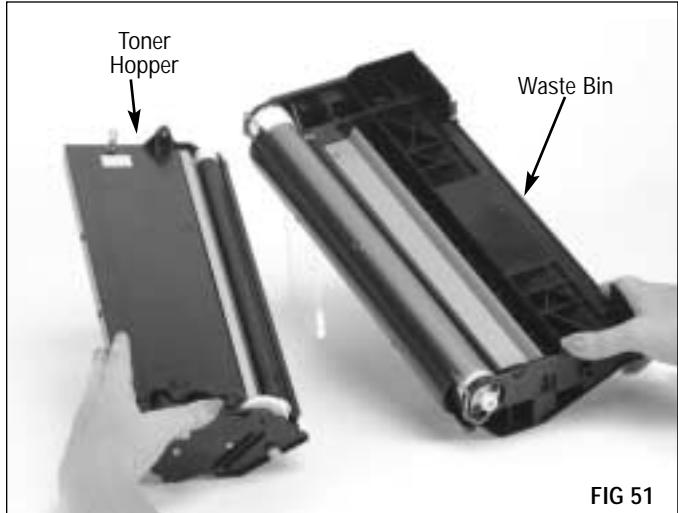

FIG 51
1. Bring the two cartridge sections together as shown (FIG 51).